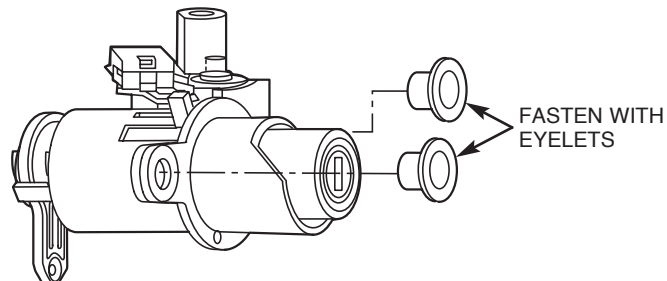

FIGURE 7
17. Insert one eyelet into each of the matching mounting holes on the housings (refer to Figure 7).
18. Insert the portions of the housing assemblies, which have the eyelets, inserted into a vise and compress the eyelets until they have deformed enough to hold the two (2) housings together.